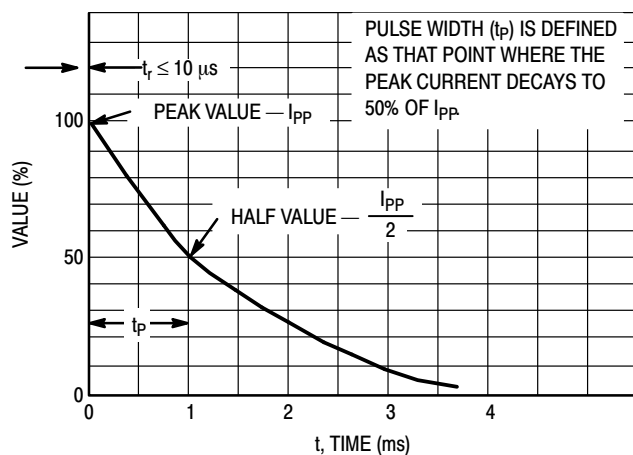

Figure 4. Pulse Waveform
- Peak Power – 40 W @ 1.0 ms (Bidirectional), per Figure 4 Waveform
- Nonrepetitive current pulse per Figure 4 and derate above $T_A = 25^\circ\text{C}$ per Figure 5.
- Surge current waveform per Figure 4 and derate per Figure 5